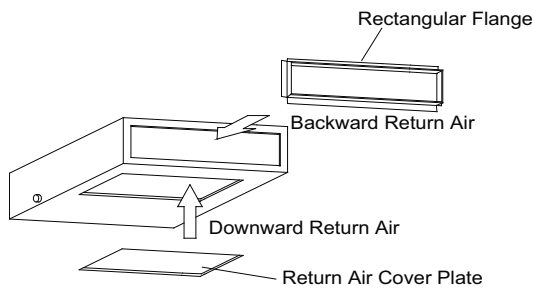

Fig. 57 – Return Air Duct
1. The default installation location of the rectangular flange is in the back and the return air cover plate in the bottom as shown in Fig. 57.